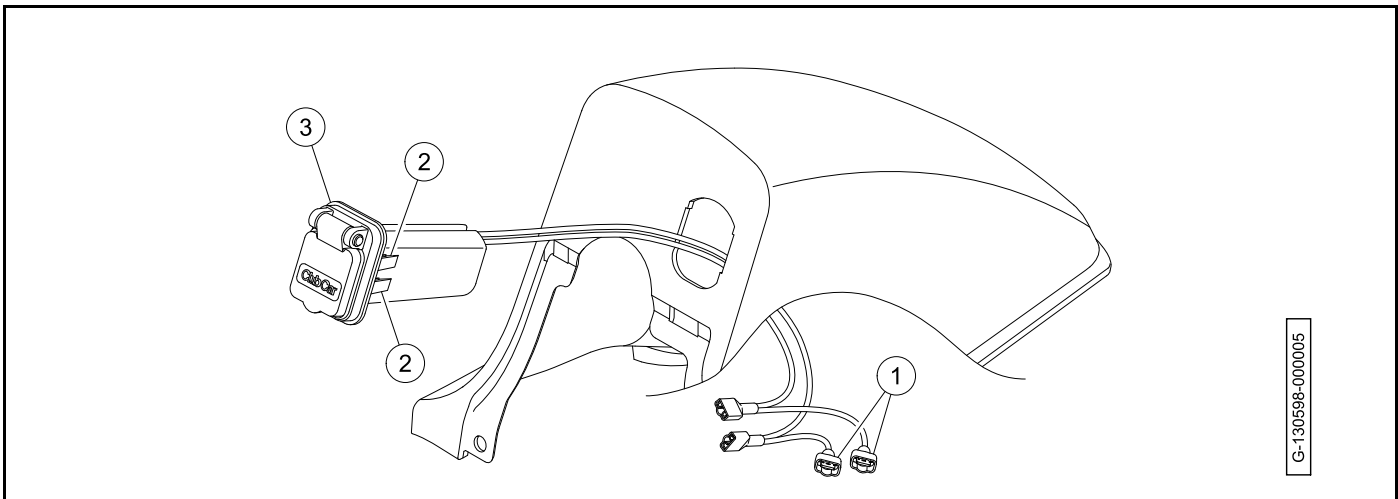

Figure 13-17 USB Receptacle
5. Disconnect the USB receptacle wires (1) (**Figure 13-17, Page 13-20**).
1. Put the USB receptacle wires (1) into the dash (**Figure 13-17, Page 13-20**).
2. Push the USB receptacle (3) into the dash.
3. Make sure that the locking tabs (2) engage.